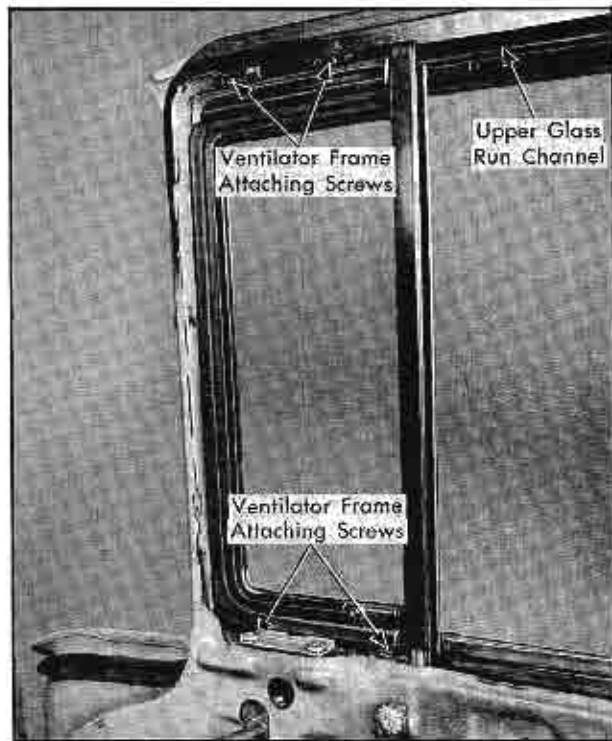

Fig. 3-36 Ventilator Regulator Removal (6219, 605)
4. Remove upper section of glass run channel. See Fig. 3-36.
5. Remove ventilator frame to door attaching screws, Fig. 3-36, and remove ventilator from door.